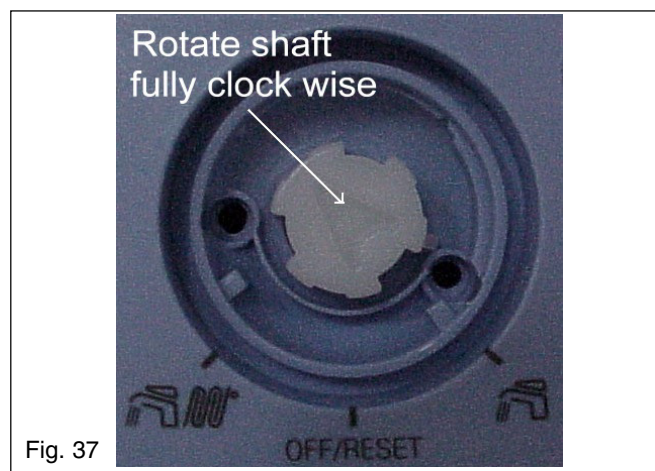

Fig. 37
- Remove the mode selector knob and turn the shaft fully clockwise (see fig. 37).